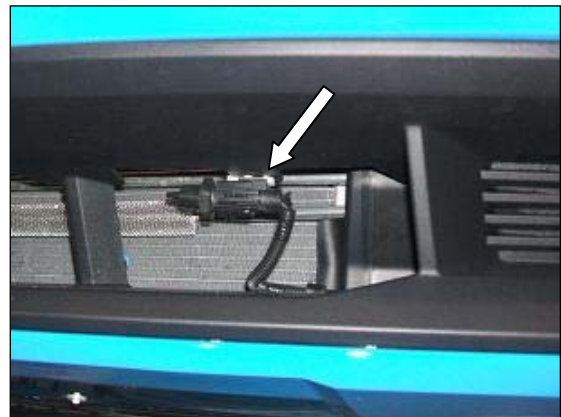

Figure 4
4. Using a forked push pin tool, remove the ambient temperature sensor from the lower left opening of the front fascia. Refer to Figure 4.
14. Reinstall the Ambient Temperature Sensor. Refer back to Step 4, Figure 4.